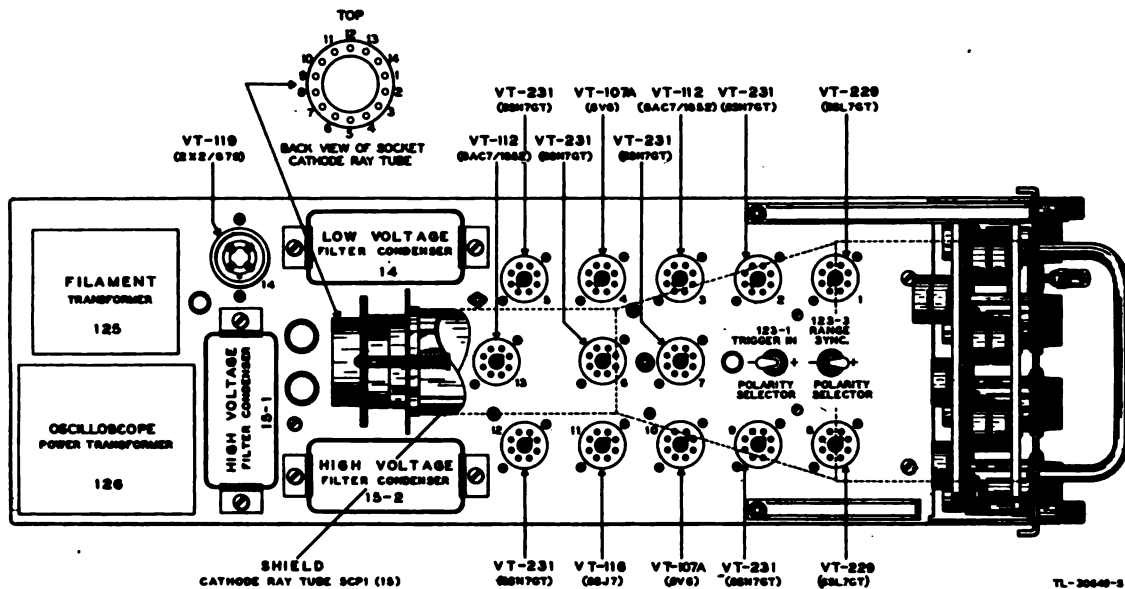

Figure 105. Control unit, top view showing location of parts and pin arrangement of cathode-ray tube socket.
**a. Sync Polarity Switch Settings.** If the associated radar equipment is Radio Set SCR-784, its trigger sync pulses are negative and its range sync pulses are positive. Make sure that the two POLARITY SELECTOR switches on the top of the chassis are set correctly, as shown in figure 105. If another radar equipment is used, determine the trigger and range sync pulse polarities and set the POLARITY SELECTOR switches accordingly, negative (−) for a negative pulse and positive (+) for a positive pulse.